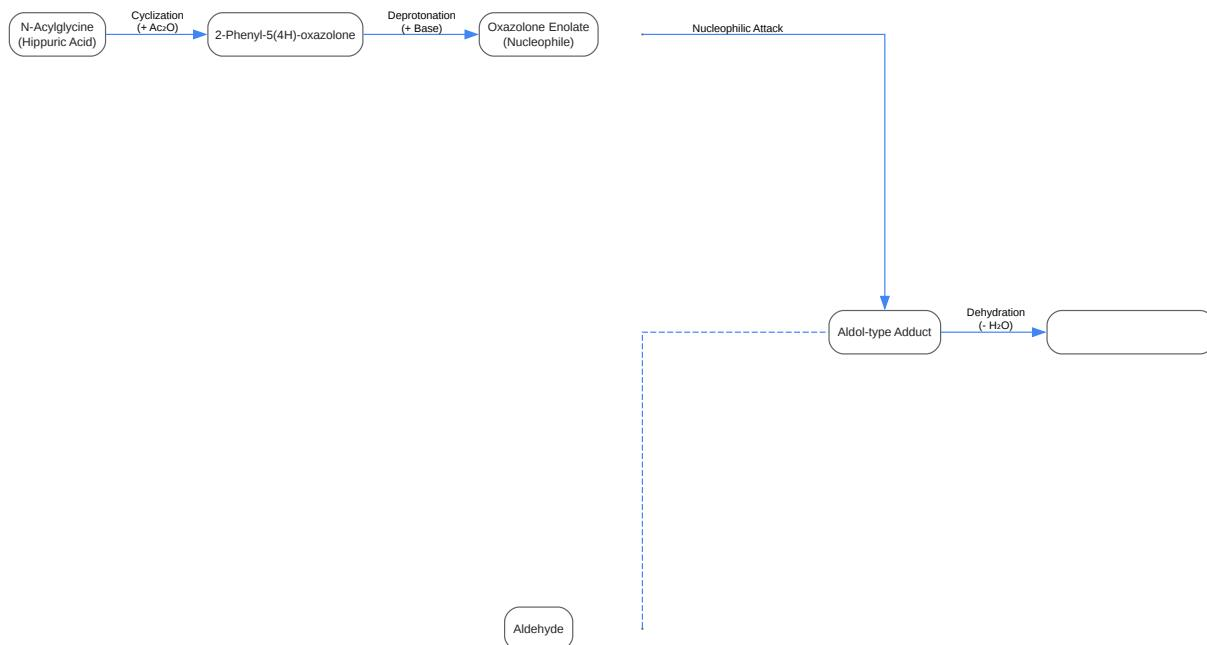

Figure 1. Mechanism of the Erlenmeyer-Plöchl Reaction
- Dehydration: The resulting aldol-type adduct readily eliminates a molecule of water to form the thermodynamically stable exocyclic double bond, yielding the final 4-arylidene-5(4H)-oxazolone product.^[8] (See Figure 1 for a visual representation of the mechanism.)